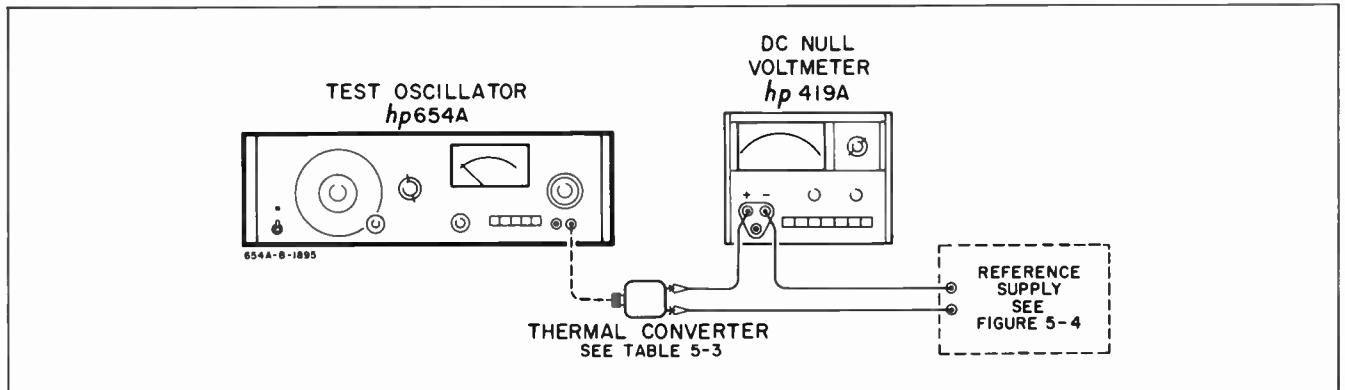

Figure 5-3. Level Flatness Checks
- b. Connect the equipment shown in Figure 5-3; use the 50 ohm thermal converter (Table 5-3) which should be connected directly to the 654A UNBAL output connector. (The parts required to build the Reference Supply are shown in Figure 5-4).